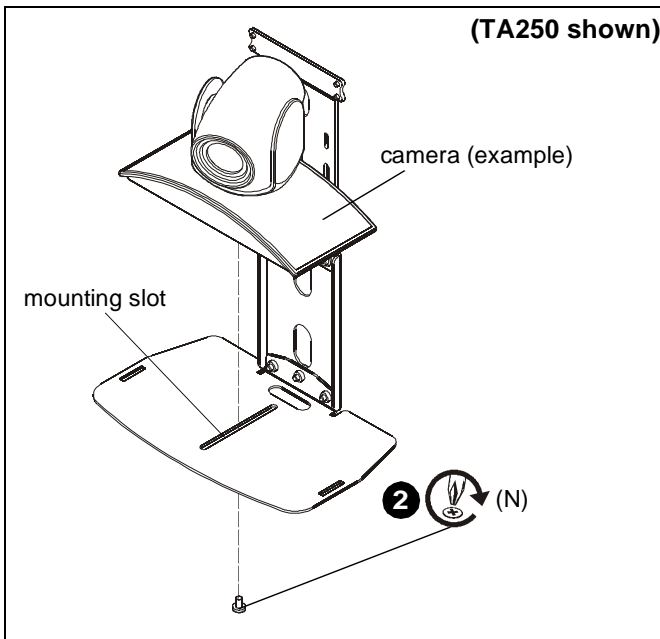

Figure 8
2. Install 1/4-20 x 3/8" Phillips pan machine screw (N) through mounting slot and into hole on bottom of camera. (See Figure 8)